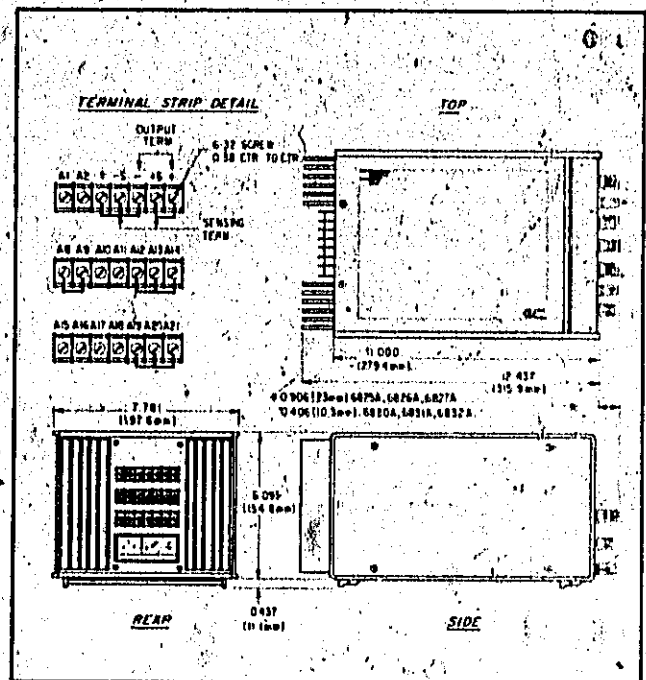

Figure 2-1. Outline Diagram
<p>Input Power: Model 6826A: 104, 127/208-254Vac (switchable), 48-63Hz, 1.0A, 130W Model 6827A: 104-127/208-254Vac (switchable), 48-63Hz, 1.2A, 150W</p> <p>Meters: Individual voltage and current meters. DC accuracy is 3% of full scale. AC accuracy is 5% full scale with sinusoidal, 100Hz input.</p> <p>Meter Ranges (DC): Model 6826A: ±6V, ±60V ±0.12A, ±1.2A Model 6827A: ±12V, ±120V ±0.06A, ±0.6A</p> <p>Meter Ranges (AC): Model 6826A: 4V (uncal), 40V rms 0.08A rms, 0.8A rms Model 6827A: 8V (uncal), 80V rms 0.04A rms, 0.4A rms</p> <p>Temperature Ratings: Operating: 0 to 55°C Storage: -40 to +75°C</p> <p>Cooling: Convection cooling is employed. The supplies have no moving parts.</p> <p>Dimensions: See outline diagram, Figure 2-1.</p> <p>Weight: 18 lbs. (8.2 kg.) net, 21 lbs. (9.5 kg.) shipping</p>	<p>Model 6827A: X1 Range: -10V to +10V, 0 to 0.5A X10 Range: -100V to +100V, 0 to 0.5A</p> <p>Load Effect (Load Regulation): Voltage load effect is given for a load current change equal to the current rating of the supply. Current load effect is given for a load voltage change equal to the voltage rating of the supply.</p> <p>Model 6826A: Voltage (X1 Range): 0.01% + .5mV Voltage (X10 Range): 0.01% + 1mV Current: .01% + 250μA</p> <p>Load Effect (Load Regulation) Continued: Model 6827A: Voltage (X1 Range): .01% + .3mV Voltage (X10 Range): .01% + 1mV Current: .01% + 250μA</p> <p>Source Effect (Line Regulation): For a change in line voltage between 104 and 127Vac/208 and 254Vac at any output voltage and current within rating.</p> <p>Model 6826A: Voltage (X1 Range): .01% + .5mV Voltage (X10 Range): .01% + 5mV Current: .01% + 250μA</p> <p>Model 6827A: Voltage (X1 Range): .01% + 1mV Voltage (X10 Range): .01% + 10mV Current: .01% + 250μA</p> <p>PARD (Ripple and Noise): Rms/p-p (20Hz to 20MHz) at any line voltage and under any load condition within rating.</p> <p>Model 6826A: Voltage (X1 Range): 2mV rms/10mV p-p Voltage (X10 Range): 6mV rms/35mV p-p Current: .8mA rms/5mA p-p</p> <p>Model 6827A: Voltage (X1 Range): 2.5mV rms/15mV p-p Voltage (X10 Range): 10mV rms/50mV p-p Current: .4mA rms/5mA p-p</p>
2-14 Figure 2-1 illustrates the outline shape and dimensions of Models 6826A and 6827A.